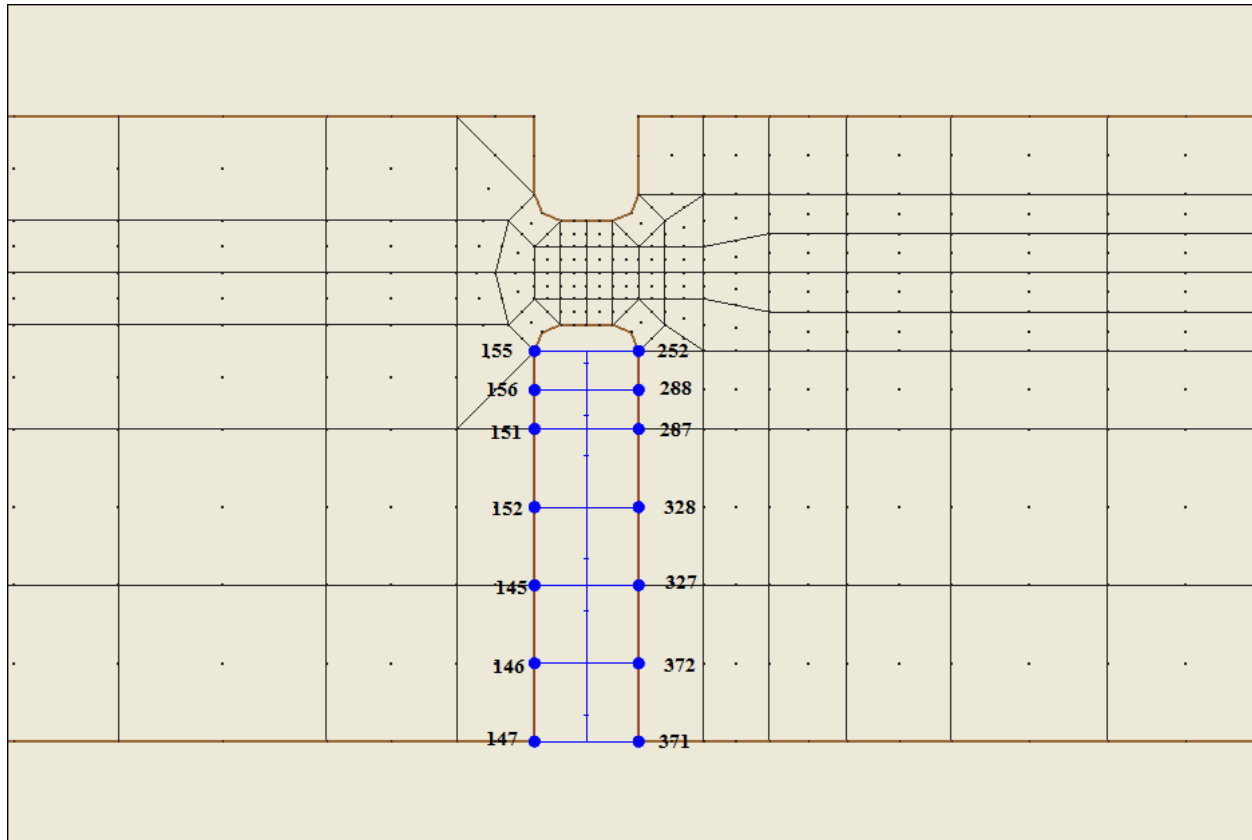

Figure 5 Area where weirs will be added.
With *FESWMS*, flow control structures such as weirs, piers, culverts, and drop inlets are easily added to the mesh. Weirs, culverts, and drop inlets are created between pairs of nodes. Wide structures can be created between strings of node pairs. For this model, a weir will be defined along seven node pairs across the abutment at the bottom middle of the mesh, as shown in Figure 5.
1. Zoom  in to the area shown in Figure 5.